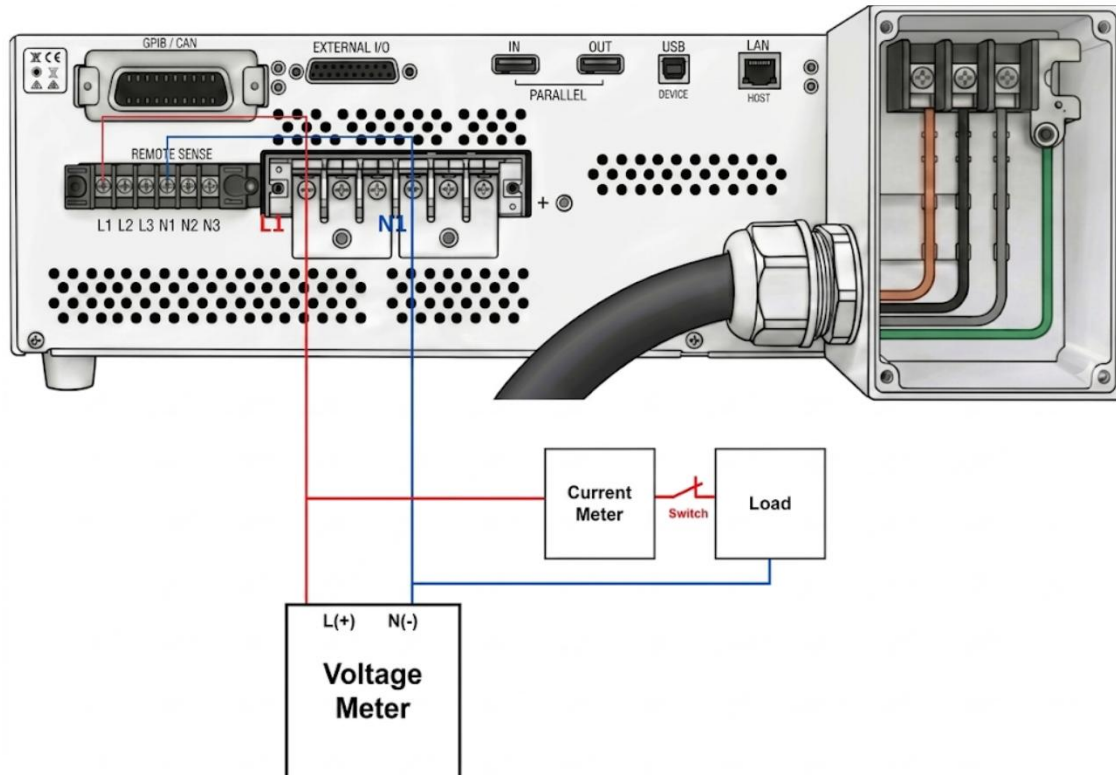

Figure 8-1 Calibration Equipment Wiring Diagram (L1/N1)
To perform calibration, you will need a high-precision Digital Voltmeter (DVM), Digital Current Ammeter (DCA), or Power Analyzer, along with a suitable load. Connect the calibration instruments according to the device instructions; see Figure 8-1 for reference. Calibration items include output voltage and output current. It is not necessary to calibrate all three phases simultaneously—users may choose to calibrate a single phase independently based on their needs, ensuring consistency and stability across all outputs. Additionally, the built-in calibration parameters can be compared with those of standard test equipment to ensure compensation accuracy. Fine adjustments can be made digitally via software, further reducing manual calibration errors and enhancing overall test reliability.
- The switch shown in Figure 8-1 is primarily used during the voltage calibration process to ensure the load is completely disconnected, preventing interference with the calibration results.